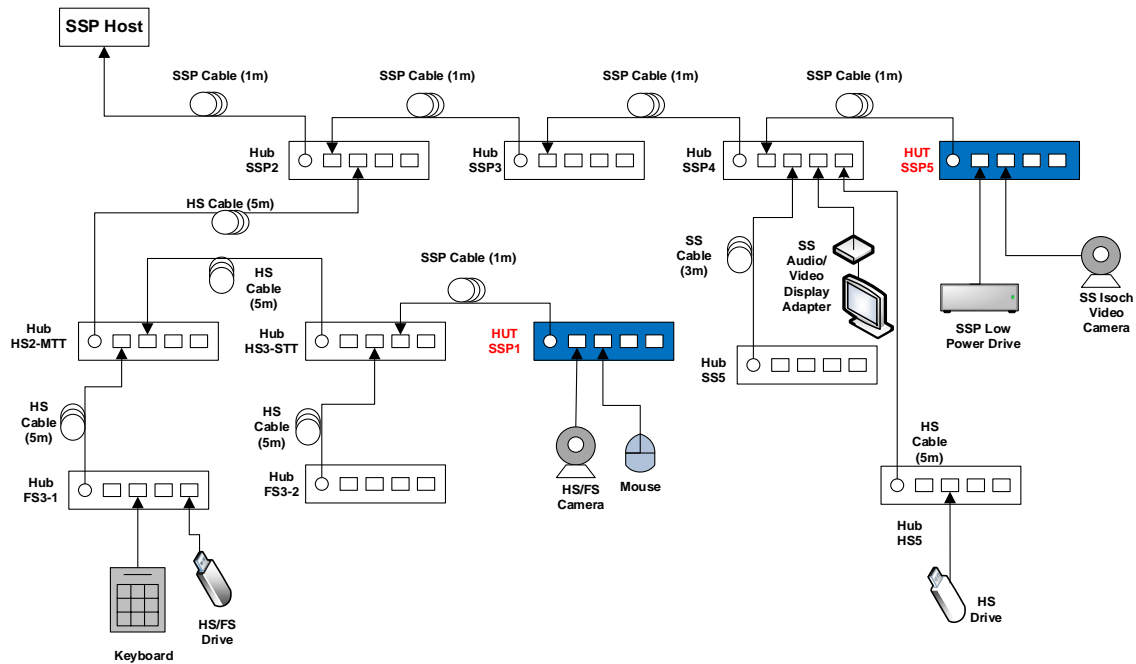
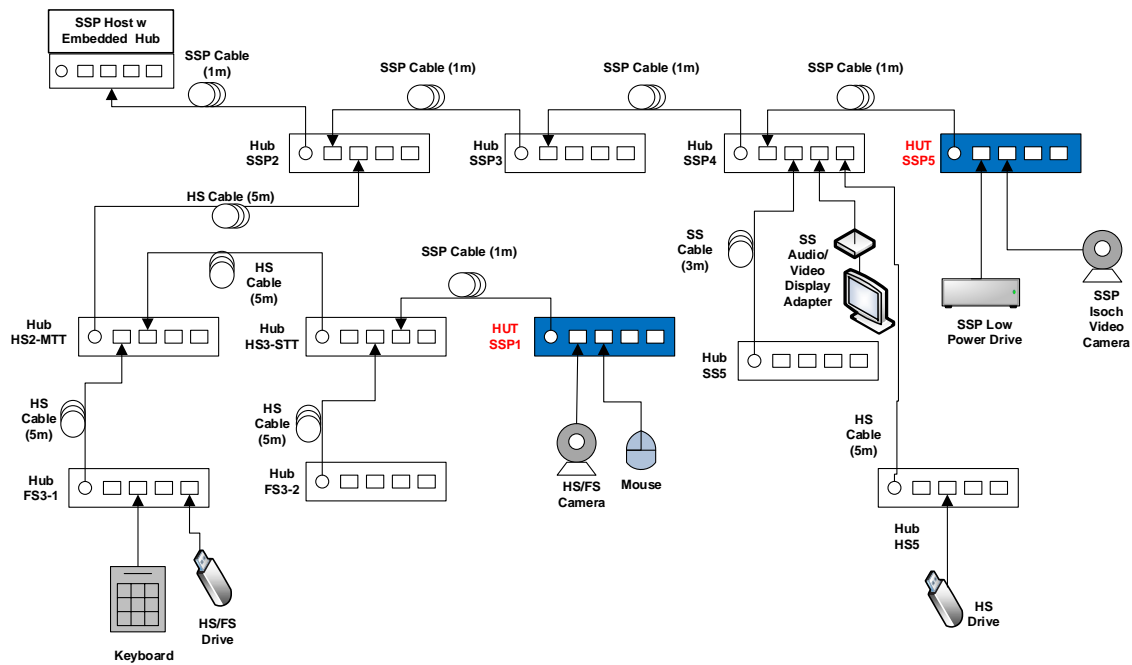

Figure 3-7: Topology Change 2
Figure 3-8: Topology Change 2 (embedded hub)
- Attach Hub SSP1 to Port 3 of Hub HS3-STT. Attach Mouse and Camera to Ports 1 and 2 of Hub SSP1 as shown in Figure 3-7 and Figure 3-8